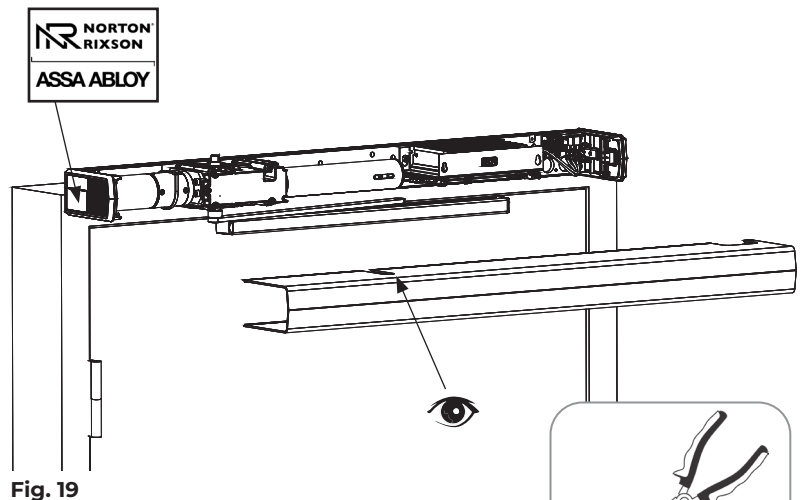

Fig. 19
1. Align cut-outs in cover to pinion shafts. (Fig. 19)
5. Attach a label plate to each end cap by snapping into place by hand with gentle pressure. (Fig. 19)